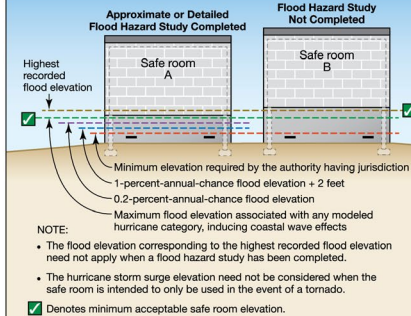

Figure 1. The elevation of a safe room floor should be at or above the highest applicable flood elevation
Community safe rooms designed, constructed, and designated solely for use as a tornado safe room do not need to consider Item 3 when determining the minimum required elevation. Figure 1 shows examples of how to determine the minimum elevation for a safe room floor. The difference between the two safe rooms is that the one on the left (A) is in an area where a flood hazard study has been completed and the one on the right (B) is not.